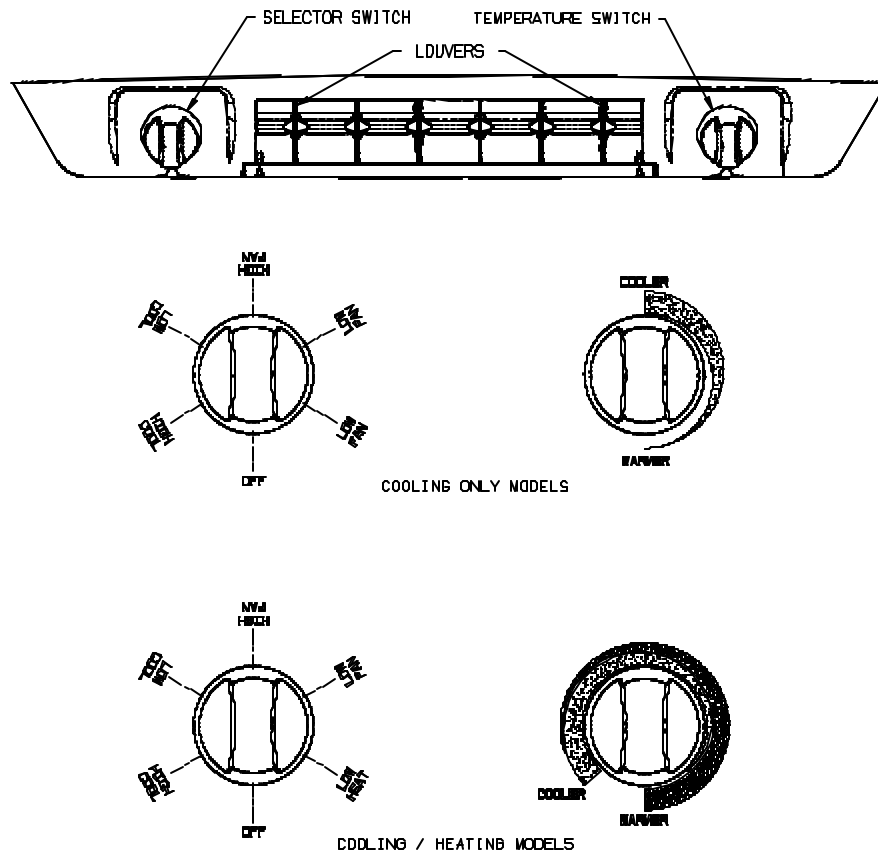

FIGURE 1
roof top unit and ceiling assembly. Figure 1 shows selector switch location and lists all available functions by model.
For “Heat/Cool” models, the thermostat also controls the “ON” and “OFF” temperature settings of the heater assembly (See Figure 1).
I. For Cooling (Refer to Figure 1, Page 3)
IV. For Heating (“Elect-A-Heat” Ceiling Assembly Model Only) Refer to Figure 1, Page 3)
For Air Circulation Only (Refer to Figure 1, Page 3)